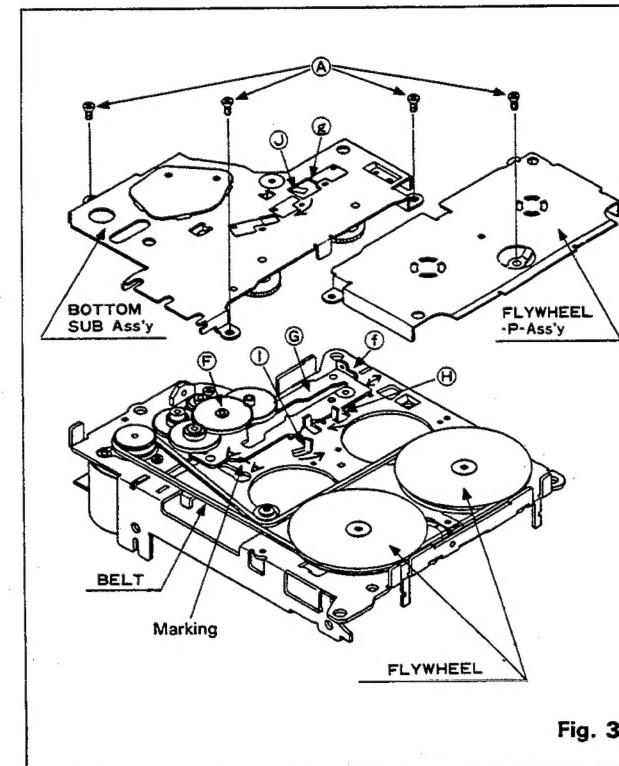

Fig. 3
- (1) Remove Screws Ⓐ (4 pcs.). (Refer to Fig. 3)
- (2) Remove the flywheel-P-ass'y and then the bottom sub ass'y.
(5) Following replacement of the belt, flywheel and reel base ass'y, remove the gear C ⑨ and move Section ⑩ of the mode plate ass'y ⑪ in the arrowed direction to make marks A-A fit. (Refer to Fig. 3).